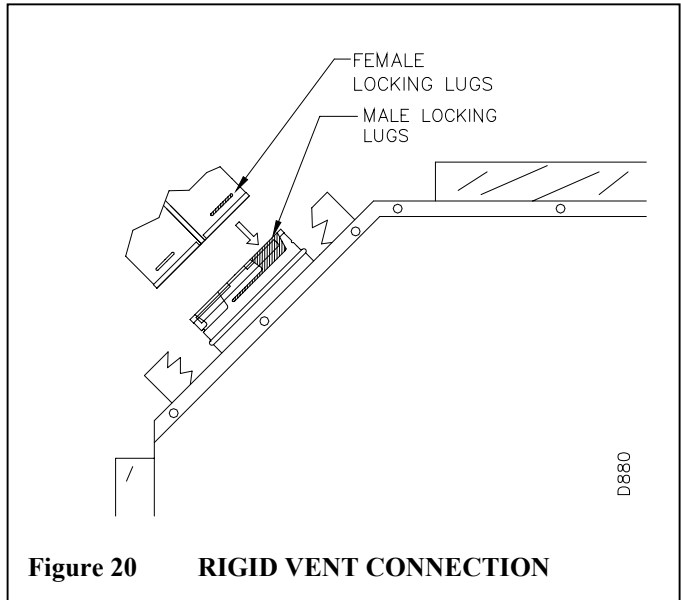
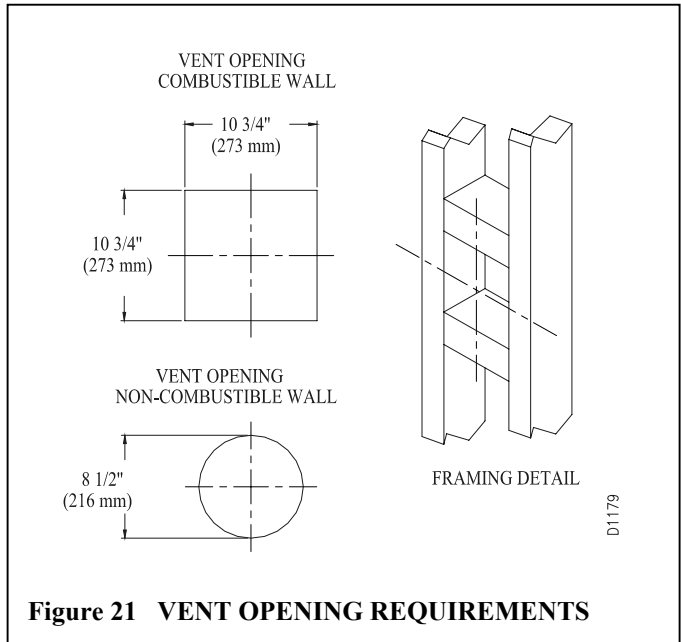

Figure 20 RIGID VENT CONNECTION
Figure 21 VENT OPENING REQUIREMENTS
3. Attach the vent pipe assembly to the fireplace using twist-lock connections for rigid pipe or clamp, method for flex pipe. See figure 20. Set fireplace in front of its permanent location to insure minimum clearances. Mark the wall for a 10 3/4" square hole (for non-combustible material such as masonry block or concrete, a 8 1/2" diameter hole is acceptable). See Figure 21. The center of the hole should line up with the centerline of the rigid vent pipe. Cut a 10 3/4" x 10 3/4" (273mm x 273mm) square hole through combustible exterior wall (8 1/2" (216mm) diameter hole if non-combustible). Frame as necessary.